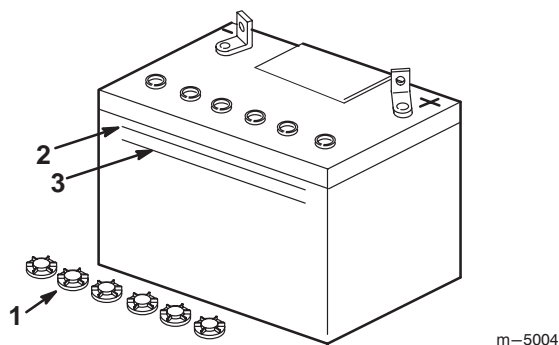

Figure 1
2. Remove the vent caps from the battery (Fig. 1).
3. Slowly pour electrolyte into each cell until the electrolyte level is up to the Upper line (Fig. 1) on the battery case.
4. Wait five to ten minutes after filling the battery cells. Add electrolyte, if necessary, until the electrolyte level is back up to the Upper line (Fig. 1) on the battery case.